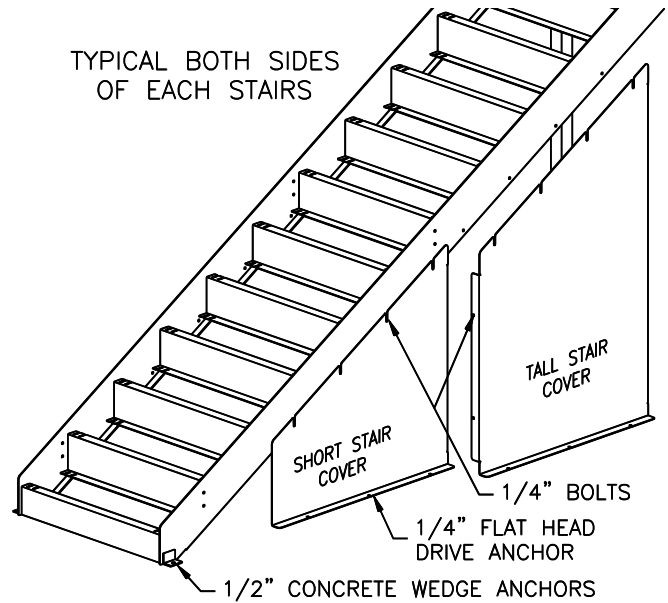

Fig 24 – Stair Covers
- 46) * Install 1/2" concrete wedge anchors at both bottom corners of stairs, **Fig 24**.